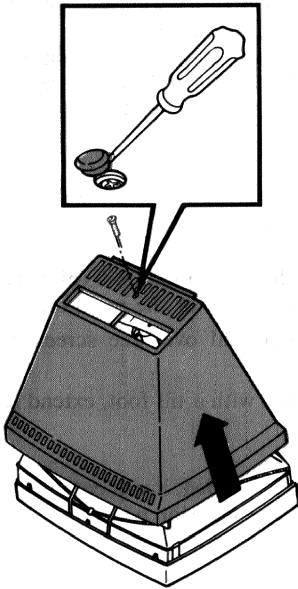

Figure 4-1 Monitor Cover Removal
5. Remove the screw cap from the back of the monitor (Figure 4-1).
6. Unscrew the cover retaining screw and remove it (Figure 4-1).